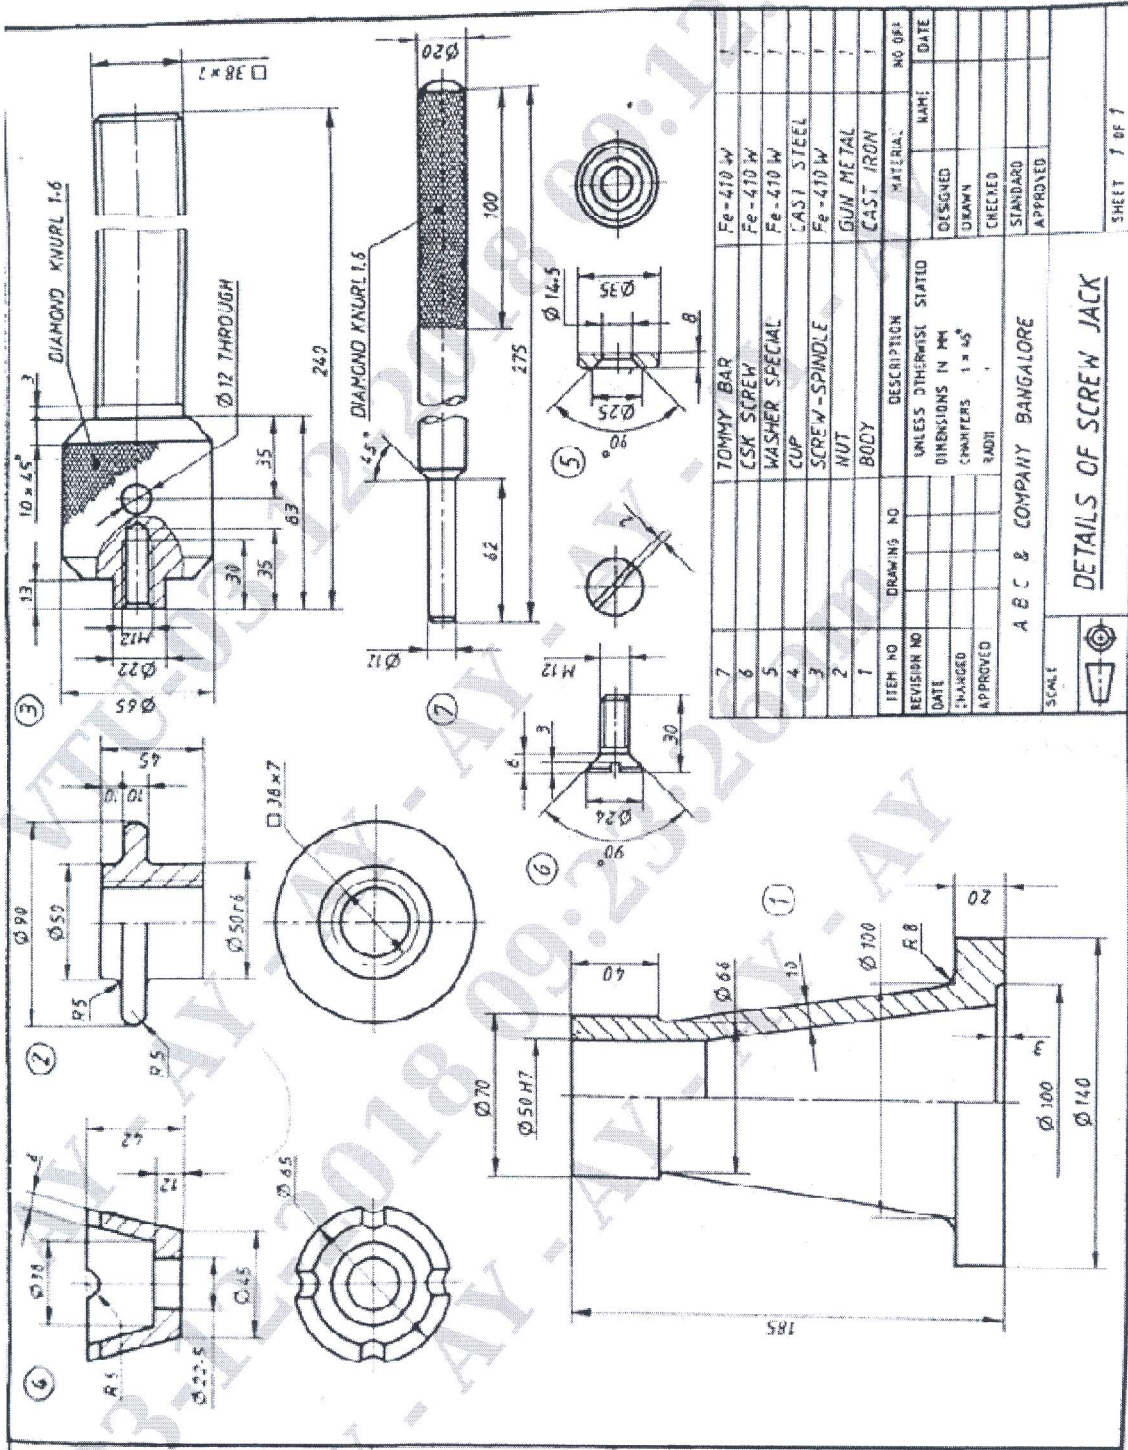

Figure 1: Details of screw jack
- Q.No.5** Figure 1 shows the details of a screw jack. Assemble the parts of the screw jack and show the following views.